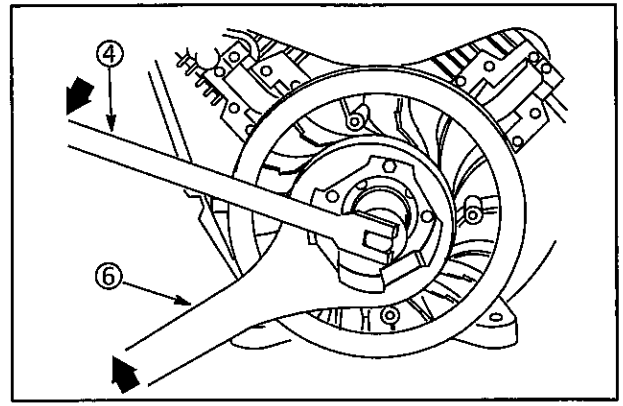

Fig. 15
1. Place Flywheel Holder #19321 (6) on fan retainer with lugs of flywheel holder engaging slots on the fan retainer, Fig. 15.